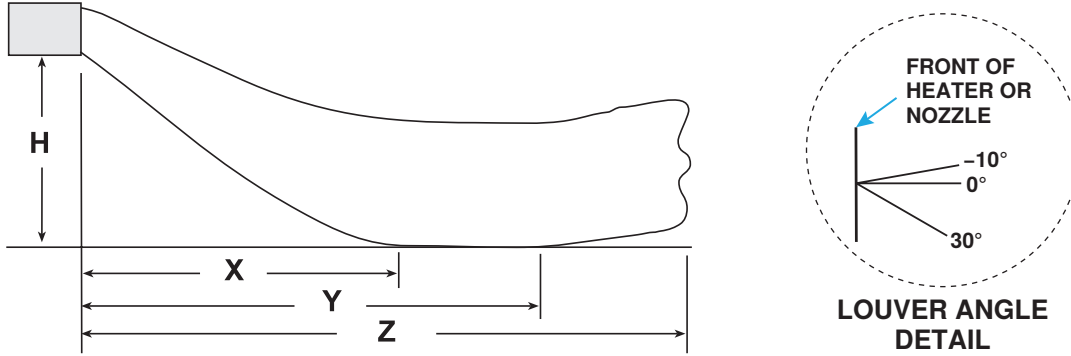

Figure 1. Heater Throw Patterns (Refer to Table 1)
Figure 1 shows throw patterns and **Table 1** lists throw distances for units suspended at varying mounting heights.
*See **Figure 1**.